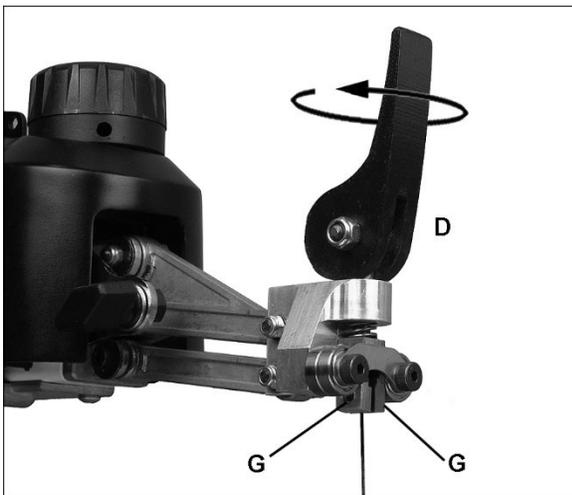

Figure 9-5: tension adjustment
If blade refuses to be clamped tightly according to the above steps, one or both of the following adjustments may be needed (Figure 9-5):
5. If side of blade does not lie flush against square, first check that the set screws (see G, Figure 9-5) protrude evenly into the clamping area. Adjust if needed.
5. Turn motor shaft (N, Figure 9-5) with flat-blade screwdriver to observe blade motion. Alternatively, you may turn on saw to slowest speed to observe blade motion.
6. Slowly rotate entire motor by hand to adjust oscillation. Clockwise rotation will make blade movement more aggressive on downstroke. Counterclockwise will make blade more aggressive on upstroke. See Figure 9-5.